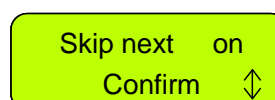

Figure 2.10
1. Shortcut – when the mower is in the Base Station press the '**STOP**' key first to display the right display (figure 2.10).